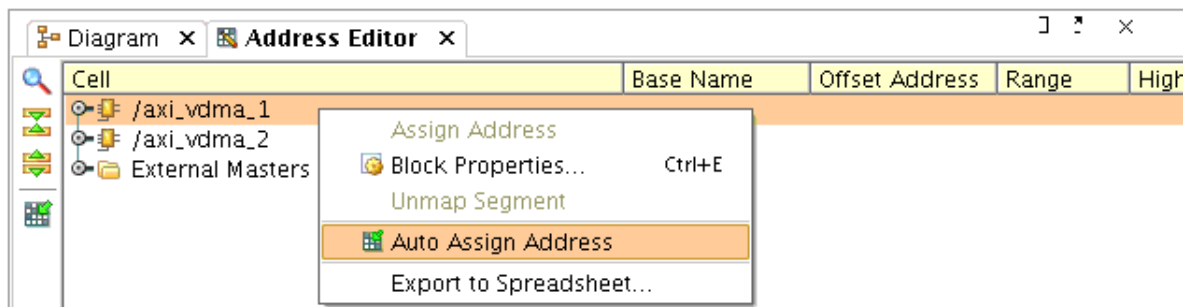

Figure 58: Auto Assign Address Option
2. Right-click the first entry, `axi_vdma_1`, and select **Auto Assign Address**. This maps the 1 GB of DDR3 memory to the address range `0x80000000` to `0xBFFFFFFF` and allows the IP integrator tool to configure the address decoders in the AXI Interconnect (Figure 58).